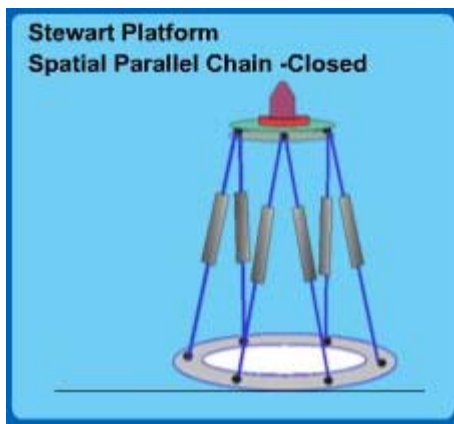

**Figure 5.1.2**
3. Figure 5.1.2 for 6R bar planer mechanism  $n=6$ ,  $J_r= 6$ ,  $J_p=0$